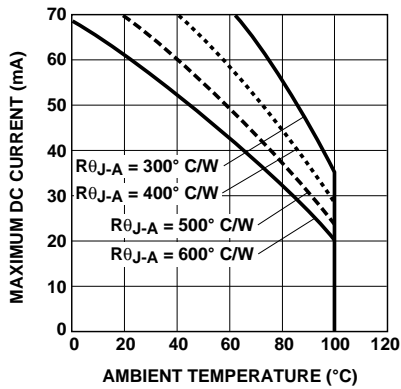

Figure 3. HPWT-xx00 Maximum DC Forward Current vs. Ambient Temperature.
2. Derate linearly as shown in Figure 3.